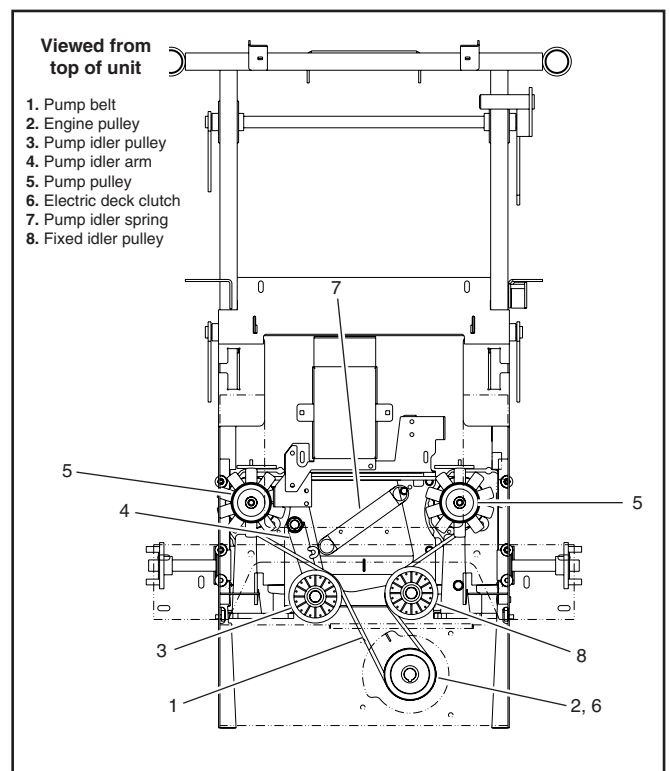

Figure 9-18
sliding the chain out of the anchor bracket slot. This will relieve the tension on the deck belt idler spring. Fig. 9-18
5. Release the tension from the integrated pump/motor belt by pulling on the idler pulley (extending spring carefully) and sliding the belt over it. Use caution when releasing the idler pulley as there is still tension on it and it will snap back into position. Fig. 9-18